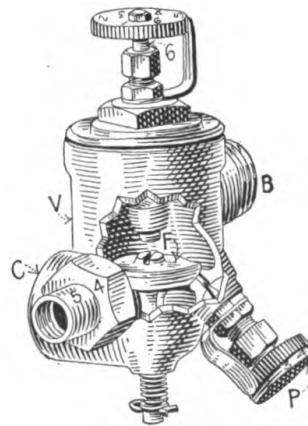

FIG. 76.—Gravity carburetor.
Another form of spray nozzle carburetors is illustrated in Fig. 76. Air enters at the lower opening *C*, gasoline flows in at (5), and the mixture of the air and fuel leaves the mixer valve at *B*. The amount of gasoline fed is regulated by adjusting the needle valve at *P*. When the engine piston moves on its outward stroke, the disc *F* is raised by suction, drawing in a charge of air, through the seat opening and past the gasoline port, into the mixing chamber above *F*. The lift and movement of the valve *F*, and consequently the quantity of the mixture to the cylinder, is regulated by the stem (6). The gasoline is supplied from a tank above the carburetor. This form of carbureter is much used for two-stroke cycle engines, as it facilitates easy starting,